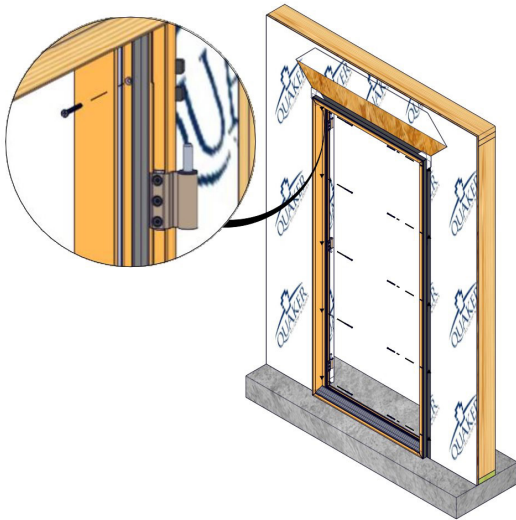

Fig. 10
1. Drill a countersink hole through the jambs in the exterior track per anchorage calculations. **Quaker Window Products does not supply or claim liability for anchorage/fastener calculations. It is the installer/client's responsibility for structural adequacy of the anchorage and fasteners.** Typically, a #12 screw 6" from the top and bottom and 15" on center thereafter. (Fig. 10)